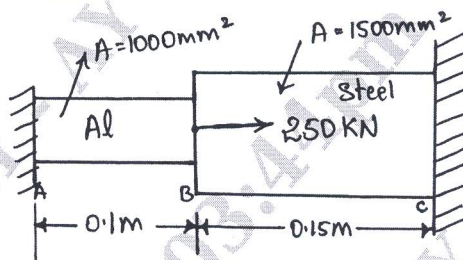

Fig Q2(c)
- c. A composite bar is shown in Fig Q2(c). Determine the stress developed in each member. Take $E_{al} = 70\text{GPa}$; $E_{steel} = 200\text{GPa}$ (10 Marks)